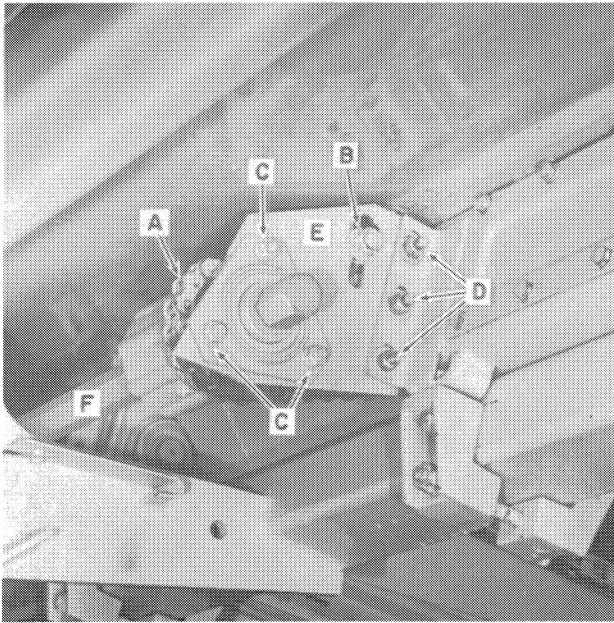

Figure 2-38
11. Install the slip clutch to row unit drive chain, Figure 2-38.